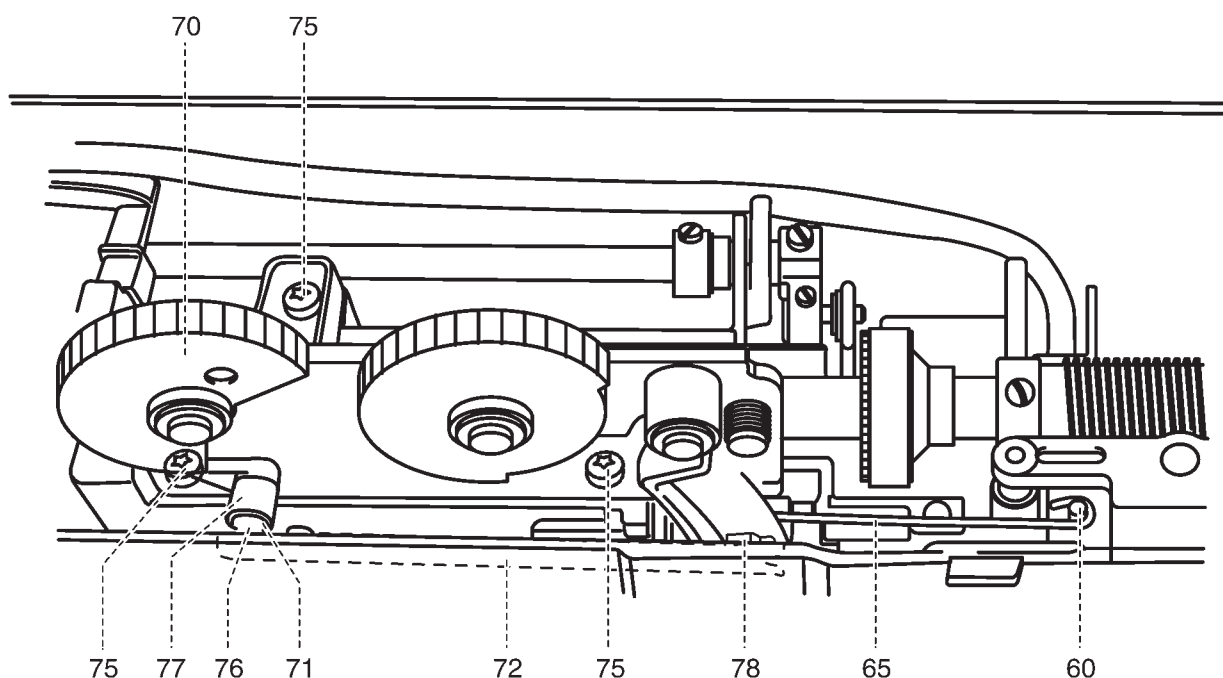

Fig. 26
- Set stitch width adjustment dial 70 to "0" (fig. 26).
- Insert bolt 76 of connecting rod 72 into joint piece 77 of the zigzag unit (fig. 26).